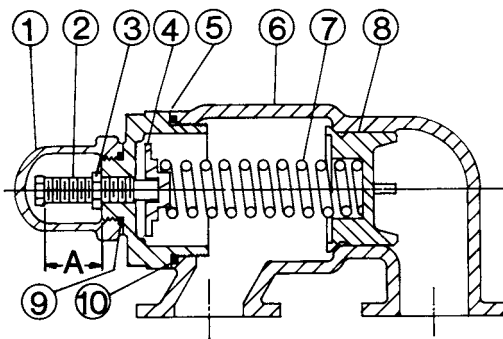

FIGURE 14
2. Measure and record length of extension of adjusting screw. **Refer to "A" on Figures 14 and 15.**